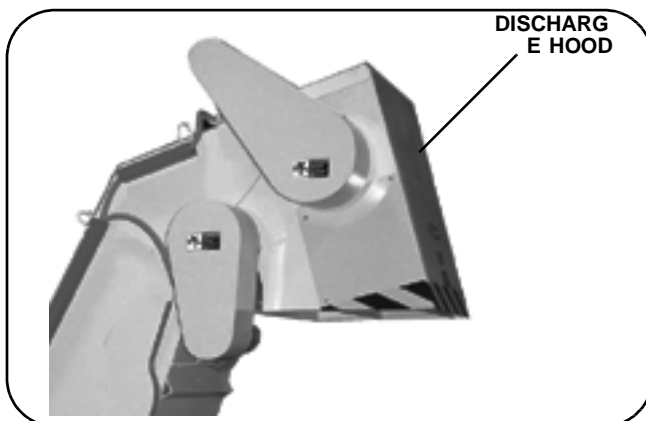

Figure 18. Discharge Hood
3. Remove the discharge hood from the front of the Filtration unit. Figure 18.